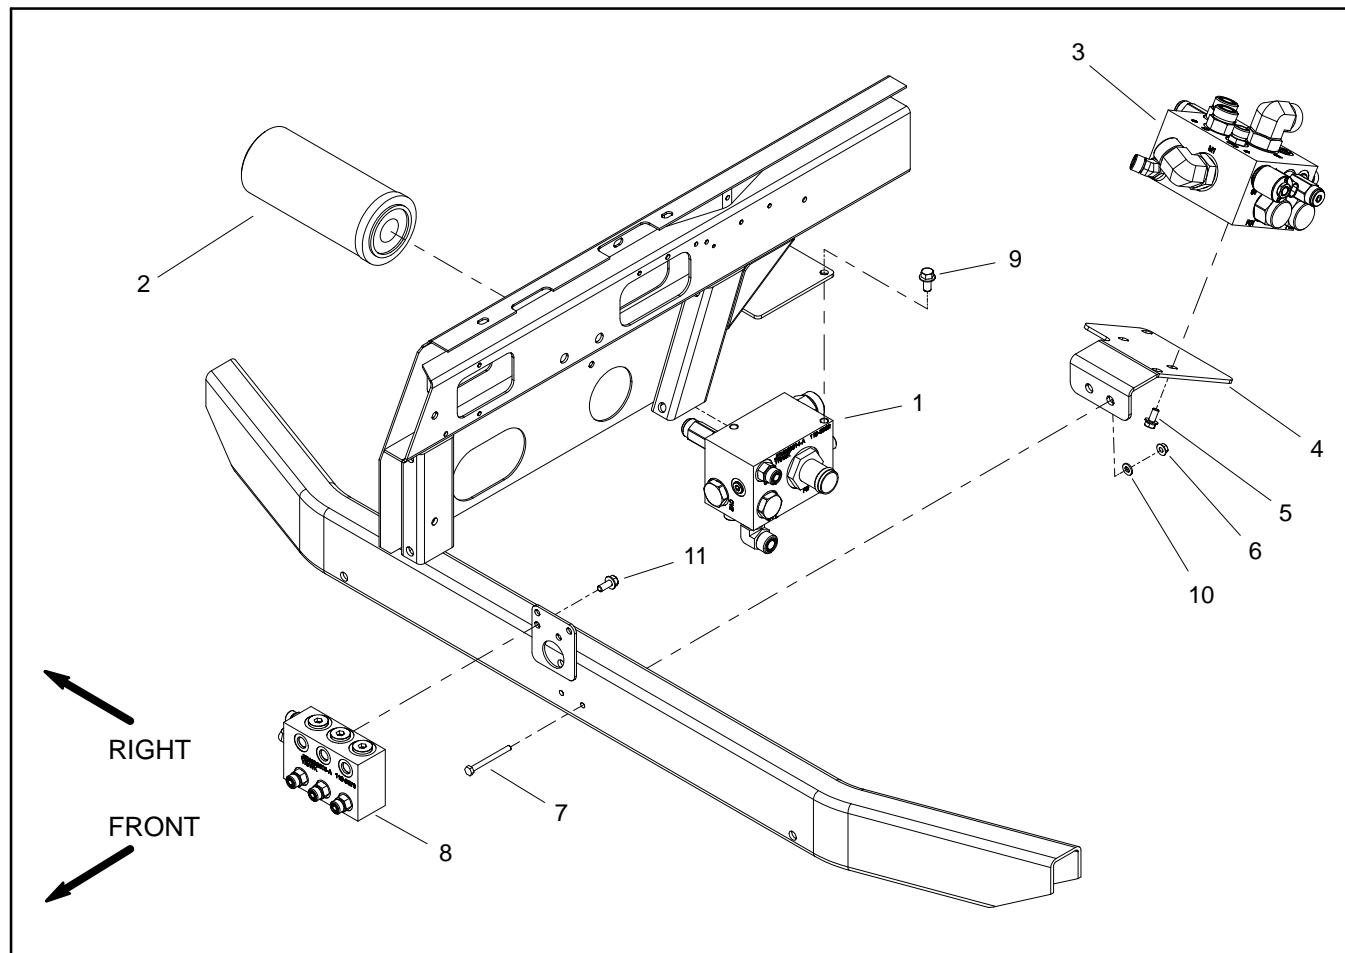

Figure 59
Removal (Fig. 59)
5. Remove hydraulic manifold from the frame using Figure 59 as guide.
Installation (Fig. 59)
2. Install hydraulic manifold to the frame using Figure 59 as guide.